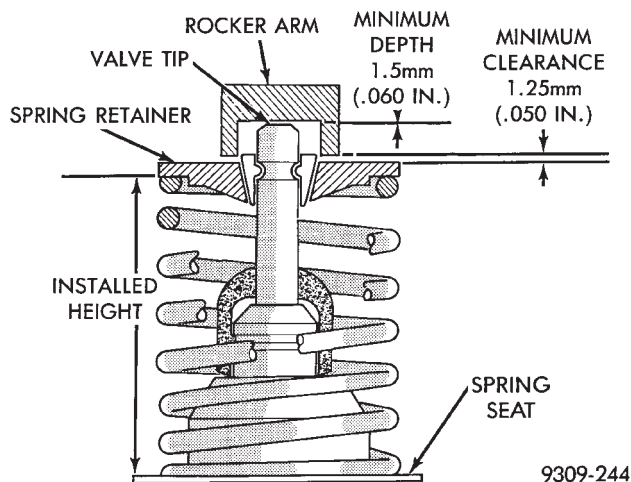

Fig. 26 Checking Spring Installed Height and Spring Retainer Clearance
(8) Check the valve spring installed height after refacing the valve and seat (Fig. 26).
(4) Check installed height of springs. Measurement is to be taken from the spring seat to the bottom of the spring retainer. Correct height is 41.2mm to 42.7mm (1.62 to 1.68 inches). If seats have been re-ground an additional spring seat may be required to maintain correct installed spring height.
(5) Install adjusters, rocker arms in order, and camshaft as previously described, see Camshaft-Install. Check for clearance between the projecting ears (either side of valve tip) of the rocker arms and the valve spring retainers. At least 1.25 mm (.050 inch) clearance must be present, if necessary, the rocker arm ears may be ground to obtain this clearance (Fig. 26).
(6) Checking dry lash. Dry lash is the amount of clearance that exists between the base circle of an installed cam and the rocker arm roller when the adjuster is drained of oil and completely collapsed. Specified dry lash is 0.62 to 1.52 mm (.024 to .060 inch). To completely collapse adjuster for dry lash measurement, pry off retainer cap, disassemble, drain the adjuster of oil, reassemble, and install. After performing dry lash check, refill adjuster with oil (do not reuse retainer cap/s) and allow 10 minutes for adjuster/s to bleed down before rotating cam.